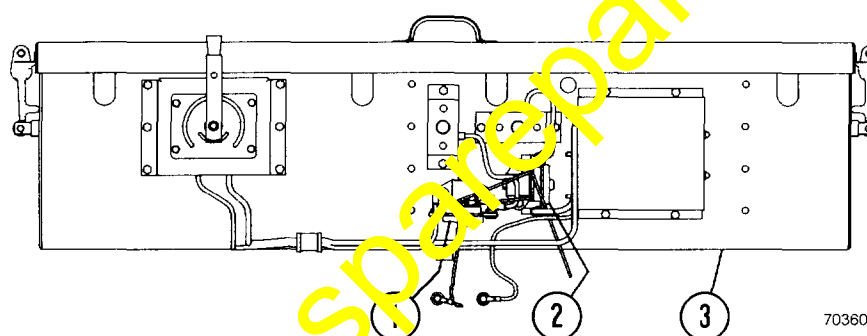

FIGURE 1. BATTERY BOX EXTERNAL COMPONENTS
A product improvement kit has been designed for use on the 530M Dump Truck. The Battery Box Relay Improvement Kit (MK4189) includes more reliable relay switches (08088-40000) for the electric power wiring. The new kit has been developed in order to replace the (PB8461) relay switches and wiring. The illustration below provides the location of the relay switches (1&2, Figure 1) in relation to the battery box (3).